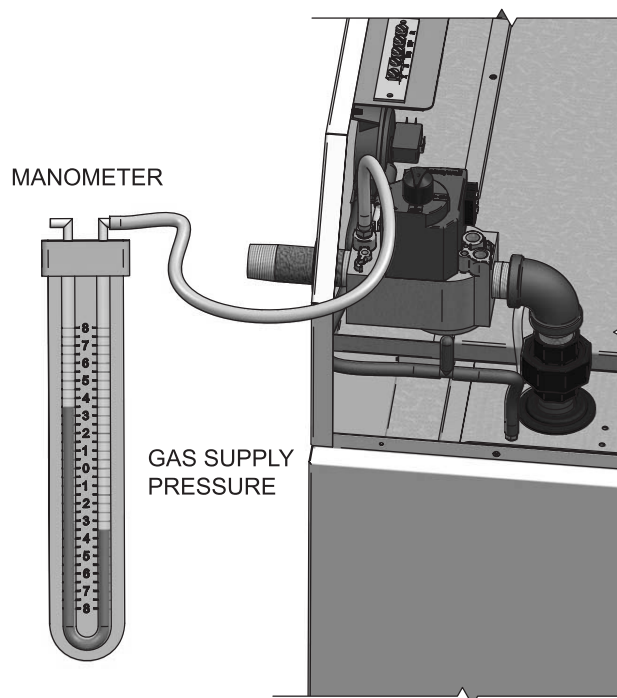

Figure 9-1 Gas Supply Pressure Measurement - Models ER152 - ER202
3. On ER152 - ER202 models remove the 1/8" hex plug, located on the "inlet" side of the gas valve. An inlet pressure tapping is located on the top side of the valve body (see FIG. 9-1).